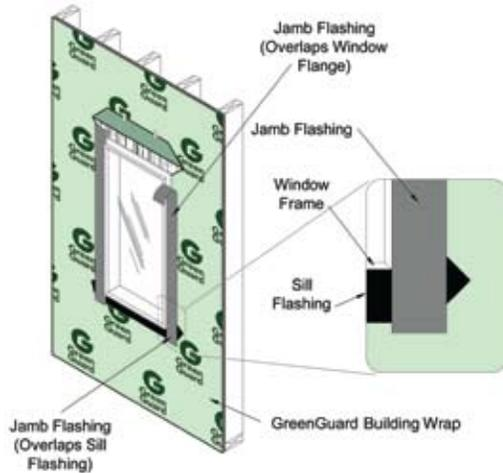

FIGURE 3B: INSTALLATION OF WINDOW JAMB FLASHING
4. Install the jamb flashing so that it overlaps the sill flashing (see Figure 3B).